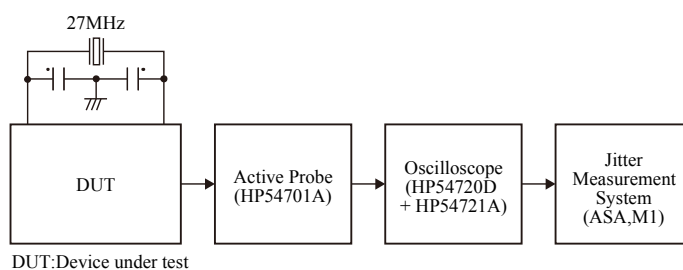

Figure 2. Measurement circuit 2
*3. The numeric values are measured values obtained using the circuit in Figure 2 and the NPC standard evaluation board.